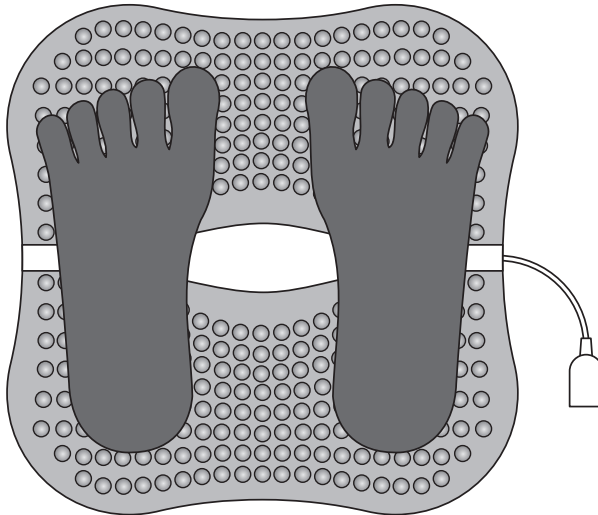

Fig. 4. Correct position of feet on the electrode
3.3. Put bare feet on the electrode so that the smooth dividing line appears to be approximately in the middle of the foot (fig. 4). Moving the feet on the surface of the electrode, find a position where the contact with the electrode is the tightest.
Attention! *The correct position of feet on the electrode is shown on figure 4.*